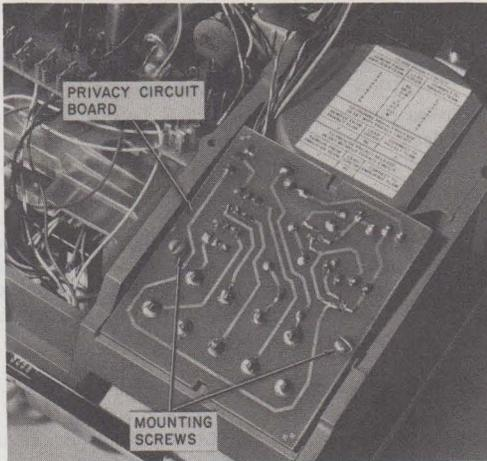

Fig. 14—Mounting Privacy Circuit
- (3) Mount privacy circuit board on the two bosses located under the front handset pocket with component side of board facing into the upper housing (Fig. 14).
- (4) Secure board using two screws furnished with kit of parts.
- (5) Replace lower housing.